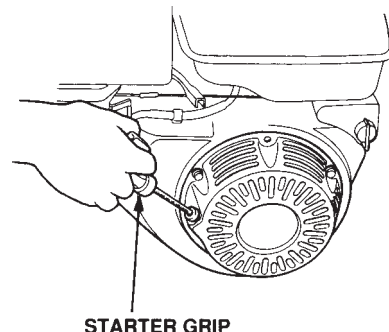

Figure 19. Starter Grip
6. Pull the *starter grip* (Figure 19) lightly until you feel resistance, then pull briskly. Return the starter grip gently. Push the clutch lever forward, toward the tow tongue end of the mixer. When engine starts, adjust throttle lever so that paddle shaft inside mixer rotates between 30-40 RPMs. The number of RPMs will vary depending on engine type and load.